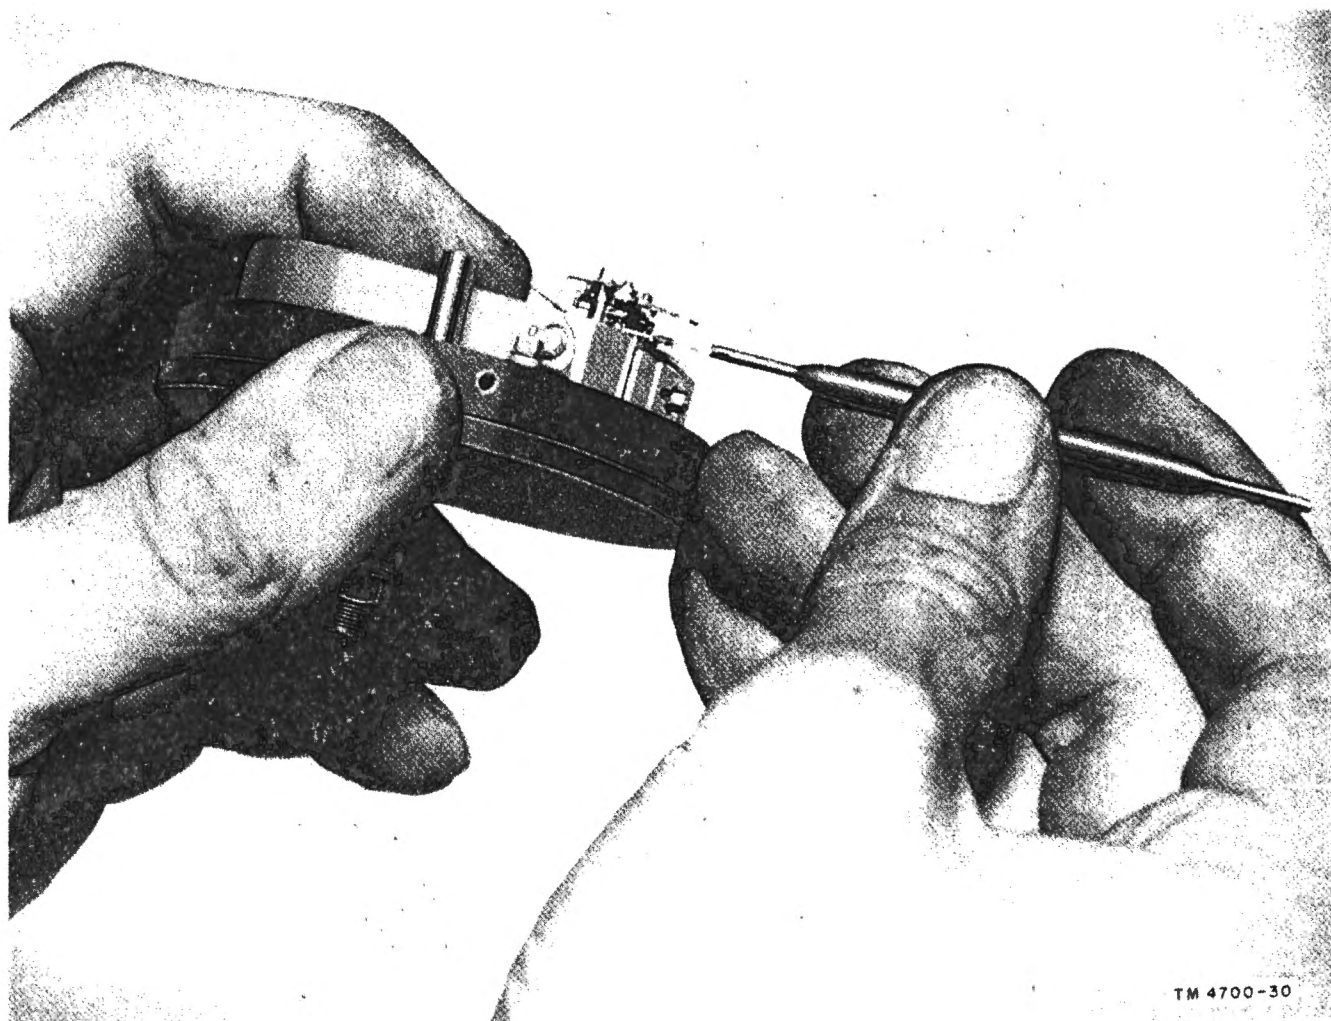

Figure 32. Correct method of adjusting balance weights.
- (1) *General.* If the balance of a moving element must be adjusted (par. 33f), make the adjustment according to the information given in (2), (3) and (4) below. If the pointer is resting at zero when the meter is in its normal position, but moves off zero as the meter is turned clockwise through 360°, the moving element is out of balance. Check the position of the pointer at each ¼ turn for maximum deviation, and balance the moving element by adjusting the appropriate weight until the pointer is restored to the zero position (fig. 32).
- (2) *Split-thread balance weight.* Since the split end of a split-thread balance weight will cut its own thread on the shaft if not properly adjusted, compress it until it has an inside-thread diameter minutely smaller than the